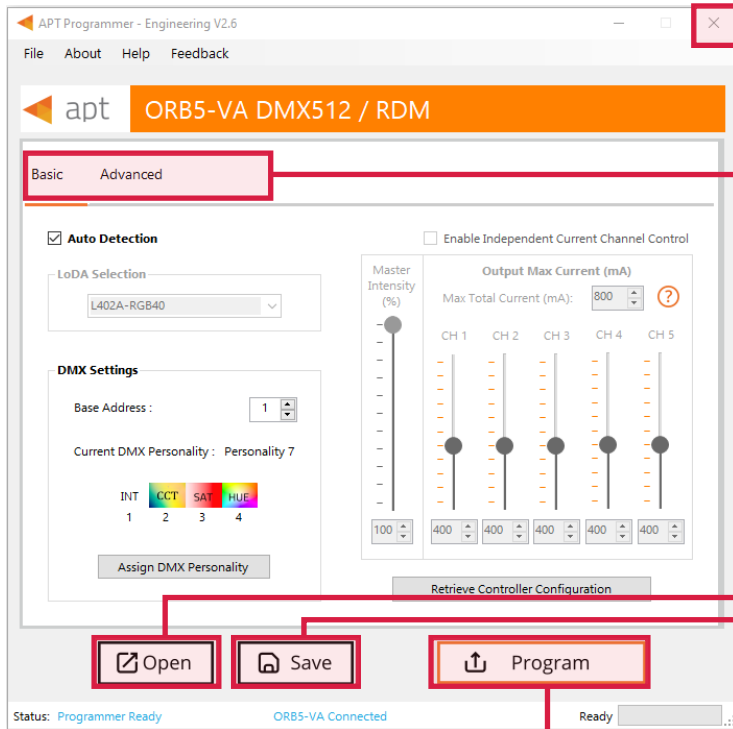

Figure 3: Programmer Interface Window
3. Click **Connect Controller** to establish a connection. Once connected, the APT Programmer Interface window (shown in Figure 3) will open.